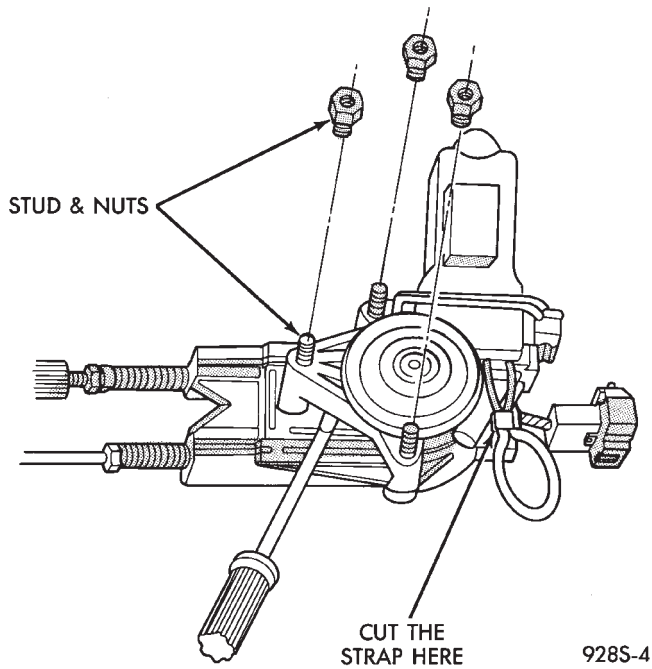
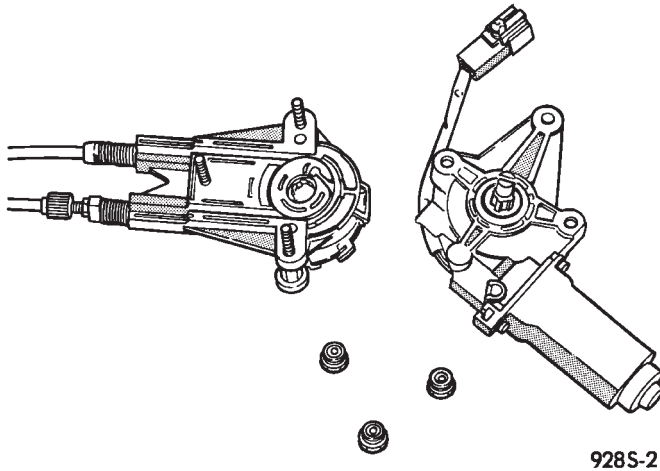

Fig. 6 Separating Motor from Housing
Fig. 7 Cable/Drum and Motor
- (1) Refer to Front Door Window Regulator for removal.
- (2) The door glass must be in the full up position.
- (3) Tape glass to door frame to hold glass in the up position.
- (4) If the window is not in the full up position, remove only the motor from the door.
- (5) Remove nuts from motor and cable housing (Fig. 6).
- (6) Make sure motor is facing you before separating motor from housing.
- (7) Using a flat tool slowly separate motor from housing, making sure the cable drum under the motor stays in cable housing. When motor is fully separated the assist spring will be completely unwound (Fig. 7).